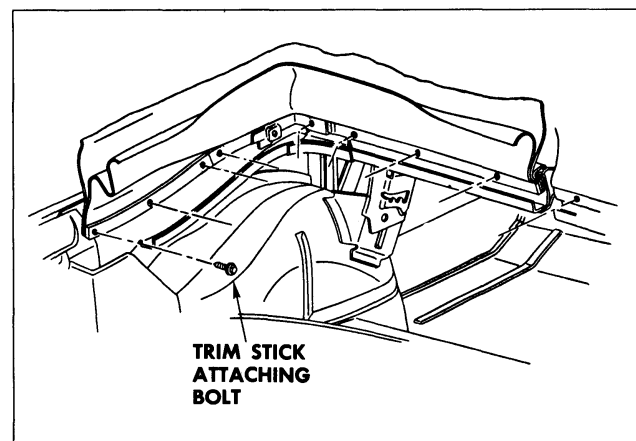
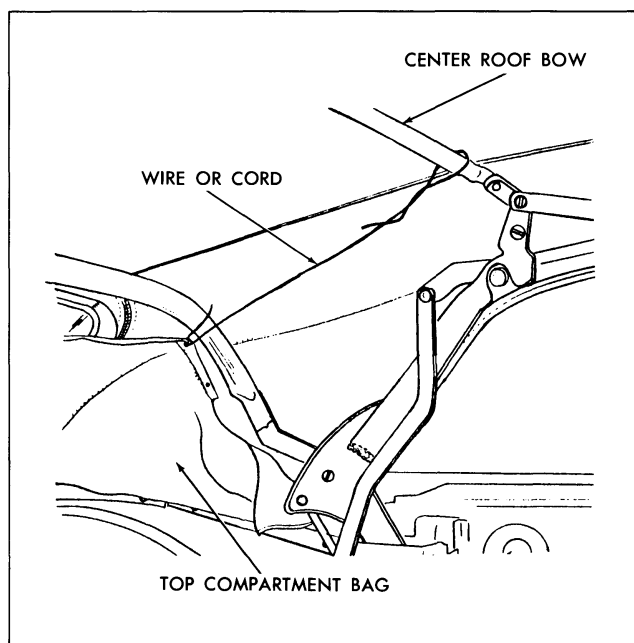

Fig. 21-13 Trim Stick Attachment
Fig. 21-14 Top Compartment Bag Tied to Center Bow
9. Detach folding top compartment bag from rear seat back panel, thus exposing rear quarter and rear trim stick attaching bolts (Fig. 21-13). Forward end of top compartment bag may be tied or wired to center roof bow to provide ready access to attaching bolts (Fig. 21-14).